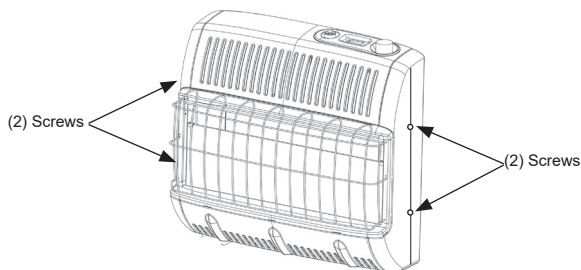

Figure 6
1. Remove (4) screws total there are (2) screws on either side of the heater. (Figure 6)